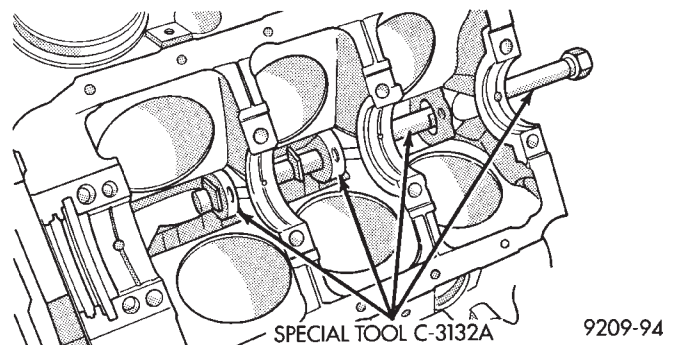

Fig. 27 Camshaft Bearings Removal/Installation—Typical
(1) With engine completely disassembled, drive out rear cam bearing core hole plug.
(2) Install proper size adapters and horseshoe washers (part of Tool C-3132-A) at back of each bearing shell to be removed and drive out bearing shells (Fig. 27).